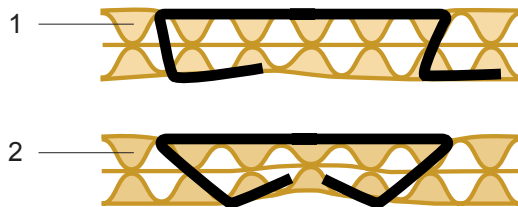

Fig. 10
Each plier is tested carefully before delivery. By rough treatment during operation the anvil therefore might need to be adjusted. Uncorrect clinching may then occur (Fig. 10/1).
- Make a test-stapling in a piece of carton. If the anvil is correct adjusted the clinch should be like in (Fig. 10/2).